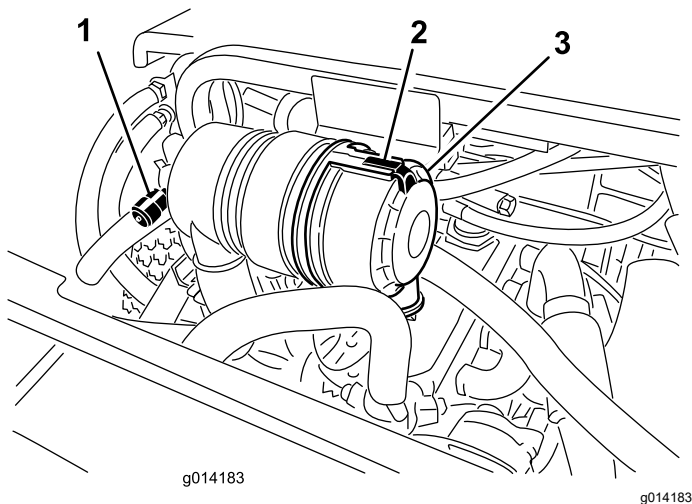

Figure 30
Service the air-cleaner filter only when the service indicator (Figure 30) requires it. Changing the air filter before it is necessary only increases the chance of dirt entering the engine when you remove the filter.
1. Release the latch securing the air-cleaner cover to the air-cleaner body (Figure 30).